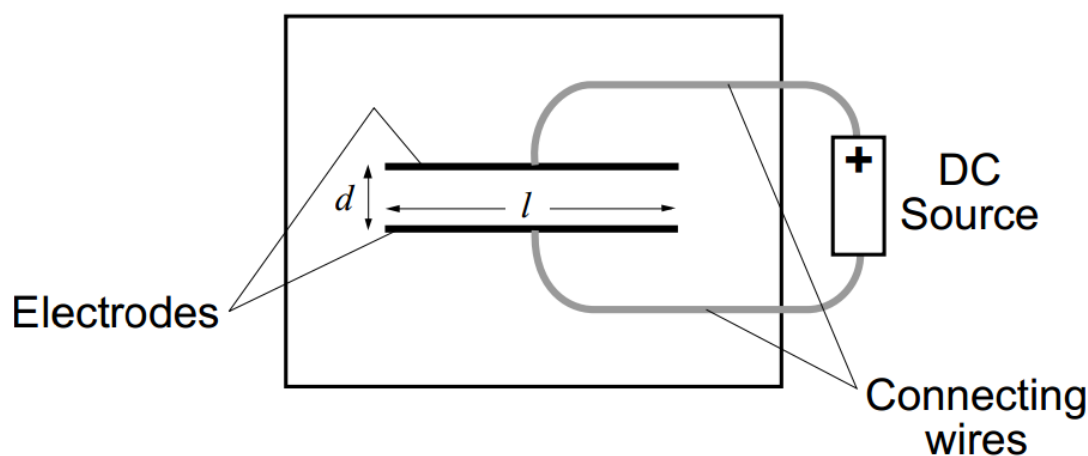

Figure 1. Diagram of a setup for mapping electric potential
Consider the configuration shown in Figure 1. It involves two long, separated electrodes, one positive and one negative. This experimental setup simulates the field you would find between two large parallel plates. The conductive paper permits you to measure the potential anywhere on the paper.
1. Set up the tank as shown in Figure 1.